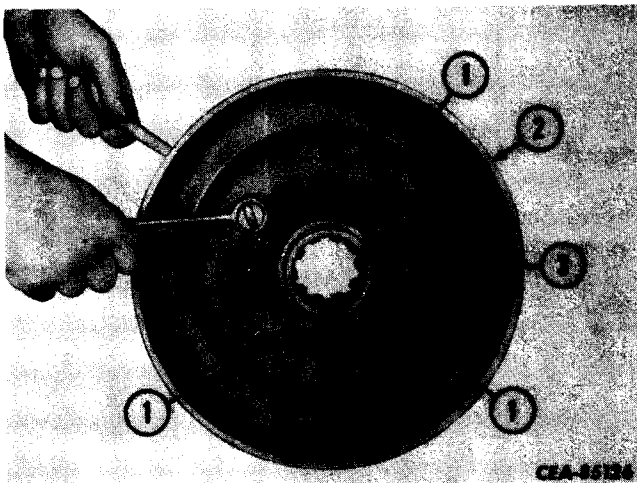

Figure 13-60
Remove cap screws and lock nuts (1, Fig. 13-60) that secure drum (2) to yoke (3). Separate drum and yoke.
Plate yoke (3, Fig. 13-60) in drum (2) and secure with cap screws and lock nuts (1). Torque lock nuts. Refer to "SPECIAL TORQUES."